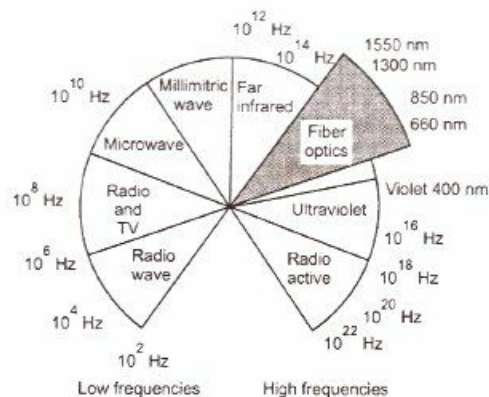

Fig. 1.6.1 Electromagnetic spectrum
- Fig. 1.6.1 shows electromagnetic frequency spectrum.